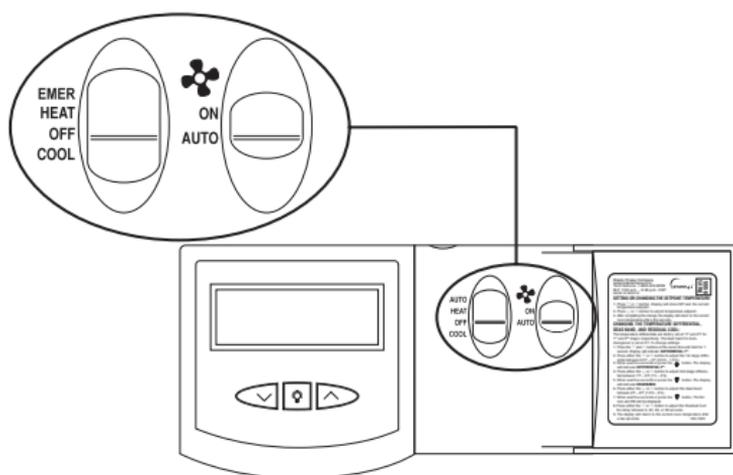

Figure 2
2. Place EMER-HEAT-OFF-COOL in OFF position (Figure 2).
3. Place ❄️-ON-AUTO switch into AUTO position (Figure 2).